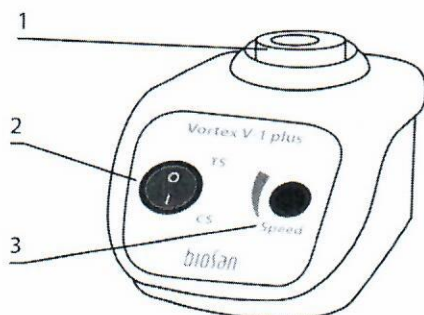

Figure 1. V-1 plus, front view
5.1.2. Gently holding a tube by its upper part, press the lower part to the vortex head (fig. 1/1). During rotation of the rotor, control the intensity of shaking by varying applied pressure.
5.1.3.1 Turn the TS/CS switch (fig. 1/2) to position CS.
5.1.3.2 Set the required speed by turning the **Speed** knob (fig. 1/3).
5.1.4.1 Turn the TS/CS switch (fig. 1/2) to position TS.
5.1.4.2 Set the required speed by turning the **Speed** knob (fig. 1/3).
5.1.4.3 Push the tube on the vortex head (fig. 1/1) and hold for vortexing. Rotor stops when the tube is raised.
5.2.4.1 Turn the **QS/CS** switch (fig. 1/4) to position **CS**.
5.2.4.2 Set the required speed by turning the **Speed** knob (fig. 1/6).
5.2.5.1 Turn the **QS/CS** switch (fig. 1/4) to position **QS**.
5.2.5.2 Set the required speed by turning the **Speed** knob (fig. 1/6).
5.2.5.3 Position the tube on the vortex head, press and hold **QS** button (fig. 1/5) for vortexing.